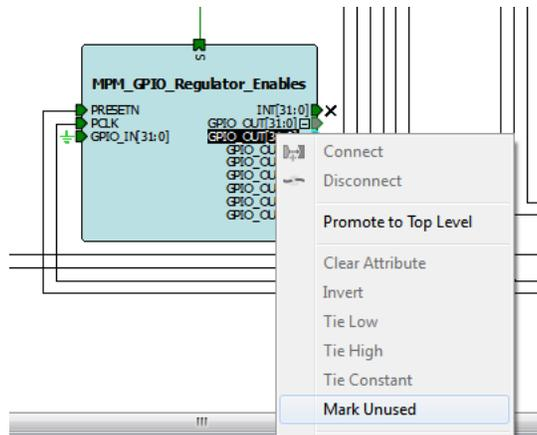

Figure 33 • Selecting Mark Unused for GPIO_OUT[31:6]
- Right-click GPIO_OUT[31:6] of MPM_GPIO_Regulator_Enables and select Mark Unused as shown in Figure 33.